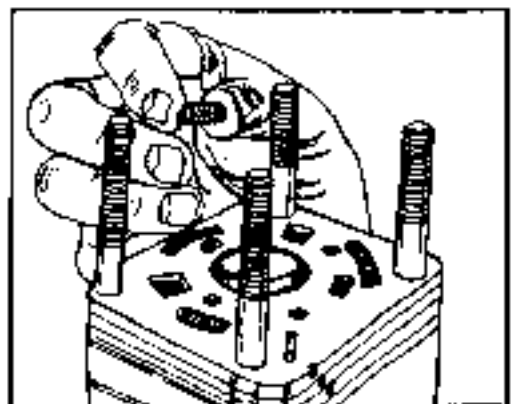

FIGURE 13.
Remove three springs (14) from the isolation manifold (15) pockets. See figure 13.